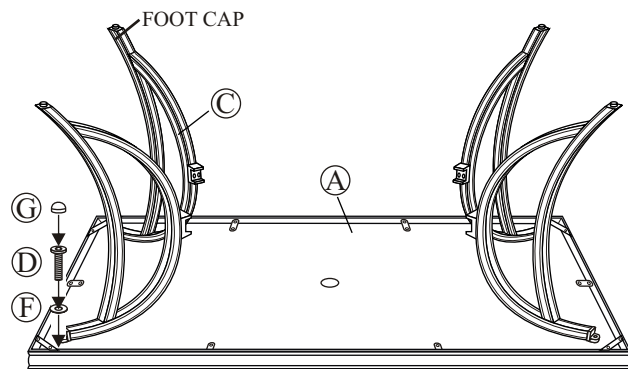

Fig.1
Step 2: Place the table top upside down on a flat, non-abrasive surface. Attach a table leg to the table top by using the bolt and washer as shown in **Fig.1**. Place the leg beneath the table top corner bracket and into the pre-drilled hole in the table leg. **Hand tighten only 3-4 revolutions only. Do not tighten completely.** Repeat for the other three legs.